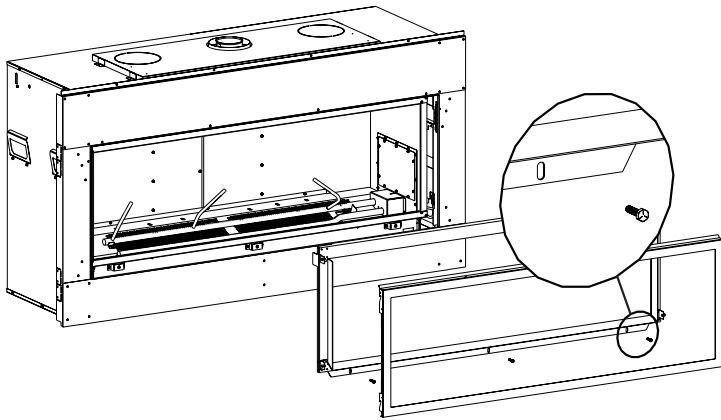

Figure 64
1. Remove barrier screen and glass door. See maintenance and service section of this manual. **See Figure 64.**